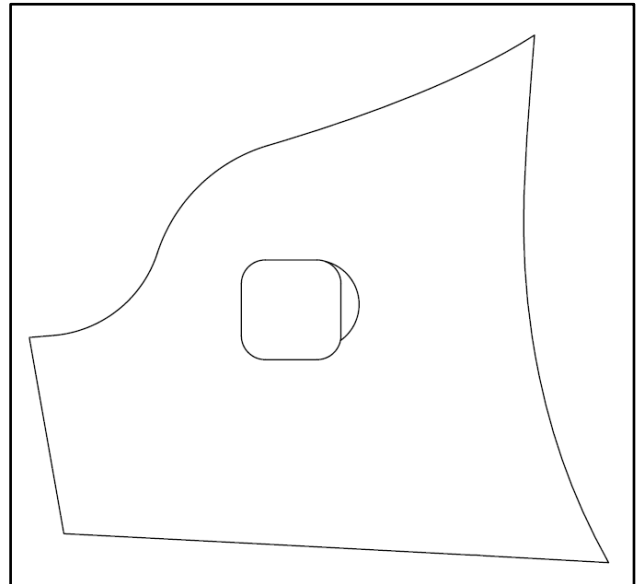

Figure 1
3. Cut out the template for the headlamp mounting panel. Figure 1 shows the right-side template.